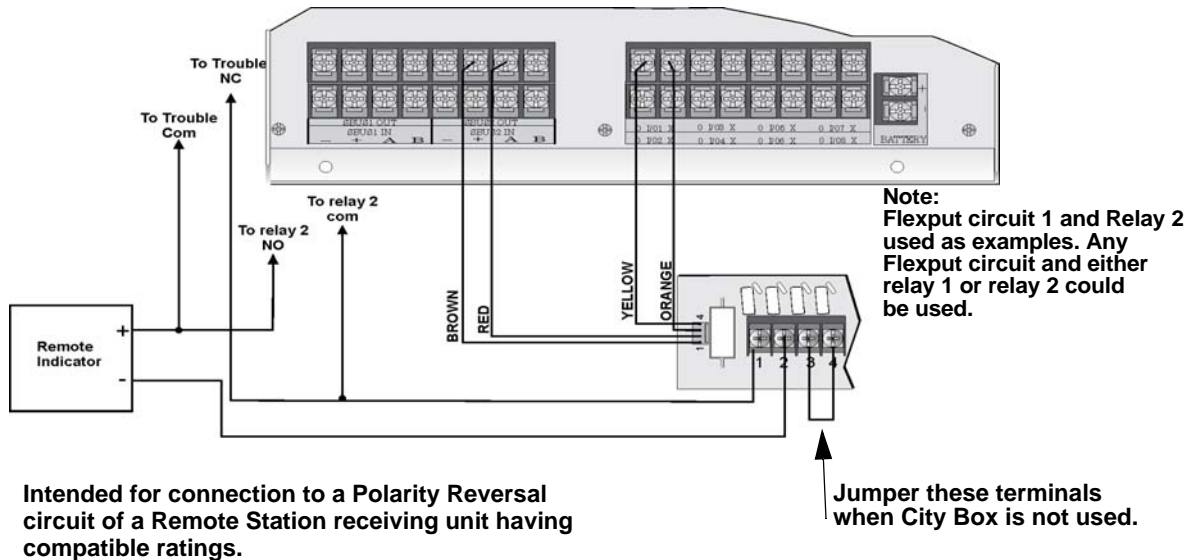

Figure 4-44 Polarity Reversal Connection Using the 5220 Module
2. Wire the 5220 to the control panel using the four-wire pigtail provided as shown in Figure 4-44. This diagram also shows how to connect the 5220 to the remote indicator. Do not install an EOL resistor in the terminals of the Flexput circuit used for this application.